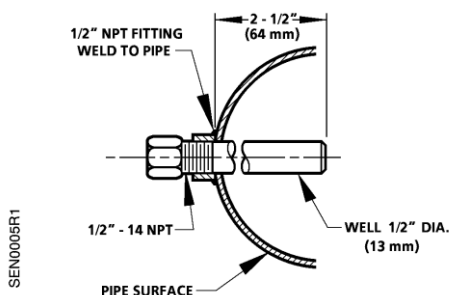

Figure 2. Pipe Surface Installation.
- A 1/2-inch NPT mounting coupling must be installed in the piping system at the sensor location. Figures 2 and 3 show two types of installation: pipe surface and pipe joint.